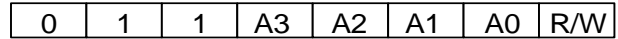

Figure 7: Digital Interface Compatible Device Address
After a start (S) command is sent, the digital interface compatible master sends a 7-bit address, followed by an 8th data direction bit (where 1 = read and 0 = write). The 8th bit indicates the register address to/from which the data is written/read (see Figure 7).